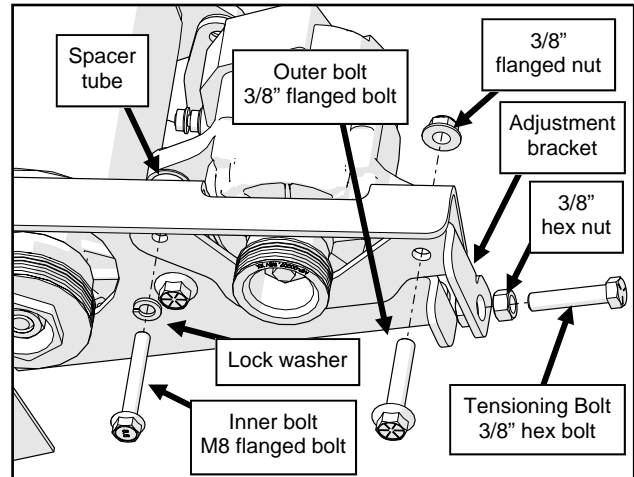

Fig. 1.8 (Install Alternator)
- 1.8** Install the alternator to the alternator bracket. Do not fully tighten the alternator bolts yet. The bolts must be snug, but loose enough to adjust the alternator along its bracket. Figure 1.8.